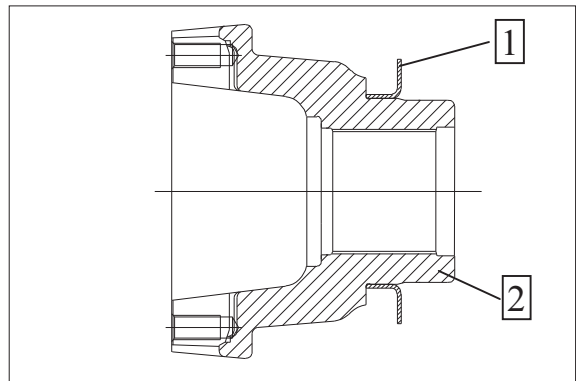

Figure 304
(1) Press the screen sheet (arrow) over the collar of the output flange until contact.
- ※ Observe the installation position, see figure 304.